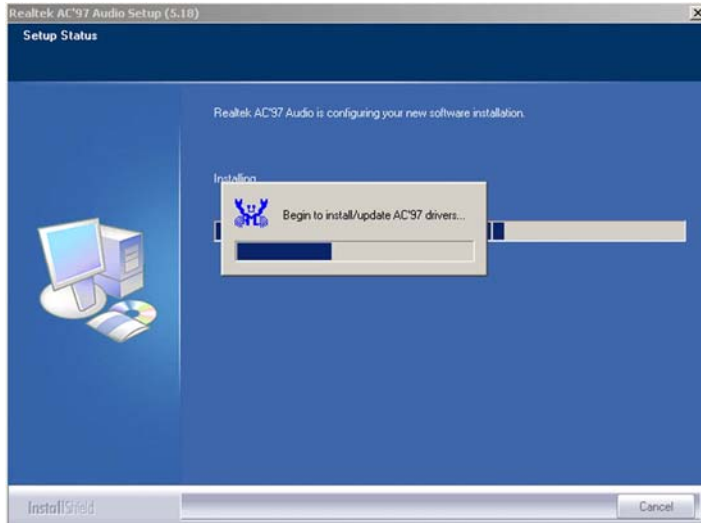

Figure 7-32: AC`97 Audio Driver Installation Begins
Step 8: After clicking the “Yes” button in Figure 7-31, the installation of the driver begins (Figure 7-32).